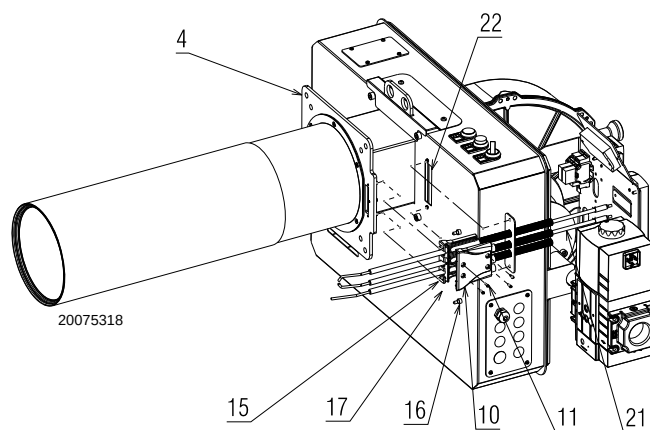

Fig. 15
For the installation of the electrodes proceed as follows (Fig. 15) - (Fig. 16):
- Fix the flange 4)(Fig. 15) to the boiler plate and tighten the nuts 4). During this operation, take care not to touch the electrode unit.